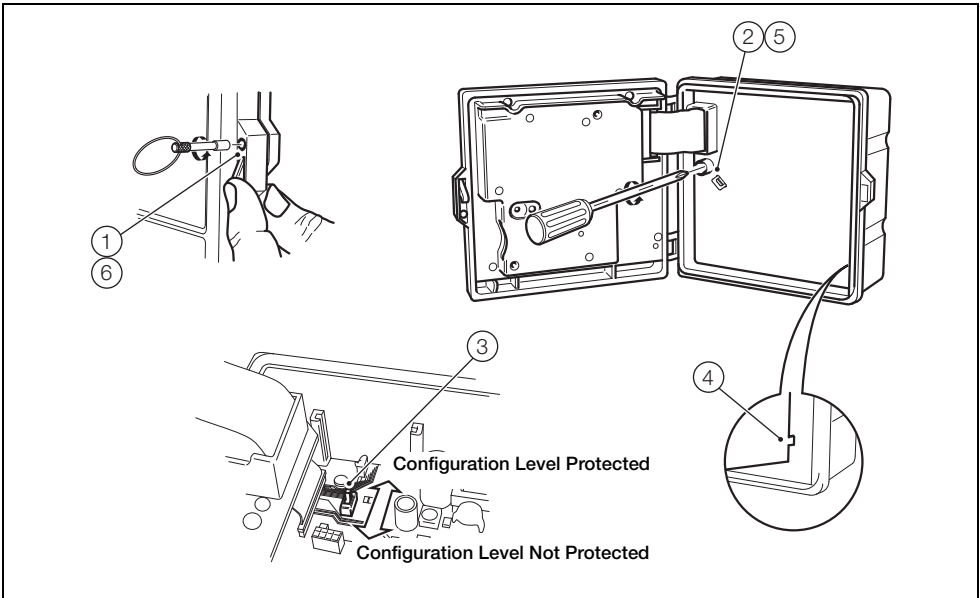

Fig. 7.3 Setting the Security Switch
The Configuration level cannot be accessed until the internal switch set to the 'Configuration Level Not Protected' position – see Fig. 7.3, page 68.
1. Set the internal security switch to the 'Configuration Level Not Protected' position – see Fig. 7.3, page 68.
Referring to Fig. 7.3, set the internal security switch as follows: